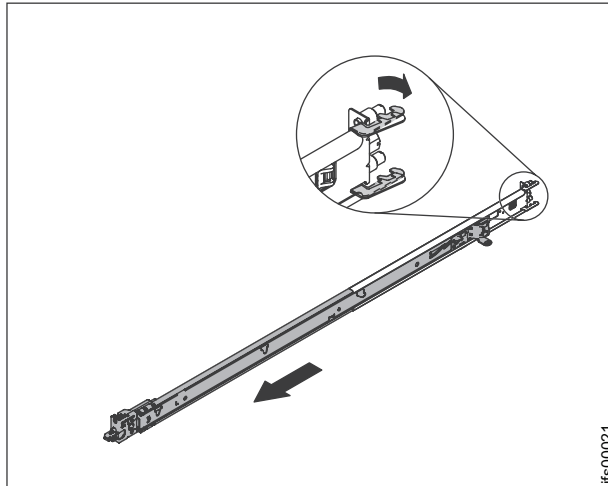

Figure 27. Opening the rear slide rail hooks
3. Each slide rail is marked with either an R (right) or an L (left). Select one of the slide rails and pull the rear bracket all the way back. If a thumbscrew is installed in the slide rail, remove it. Refer to Figure 27 on page 40.